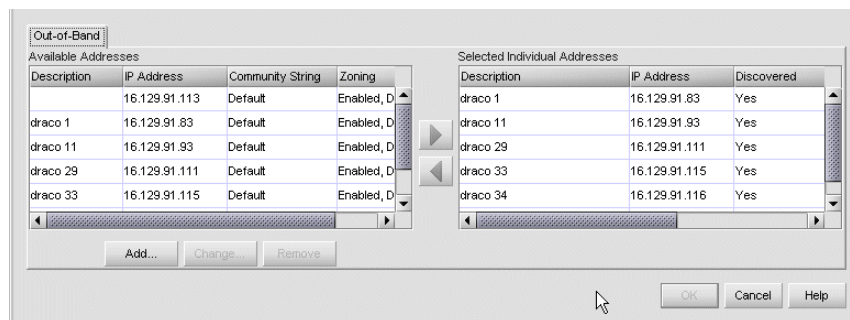

Figure 22: Discover Setup dialog box
1. At the *HAFM* application, choose **Discover > Setup**. The Discover Setup dialog box displays, as shown in Figure 22.